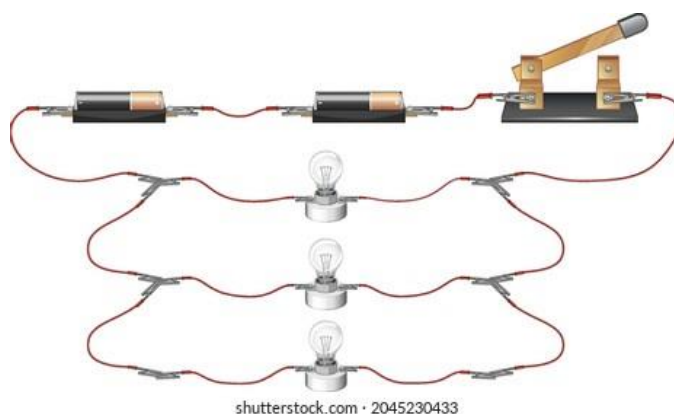

Figure 2 – Series-parallel circuit 1
- b) Draw the schematic circuit shown in Figure 2 in the space provided.